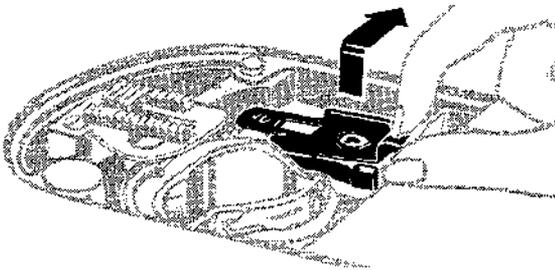

FIG. 58.
- Unlock bobbin case by lifting and pulling holder to right as shown in Fig. 58.